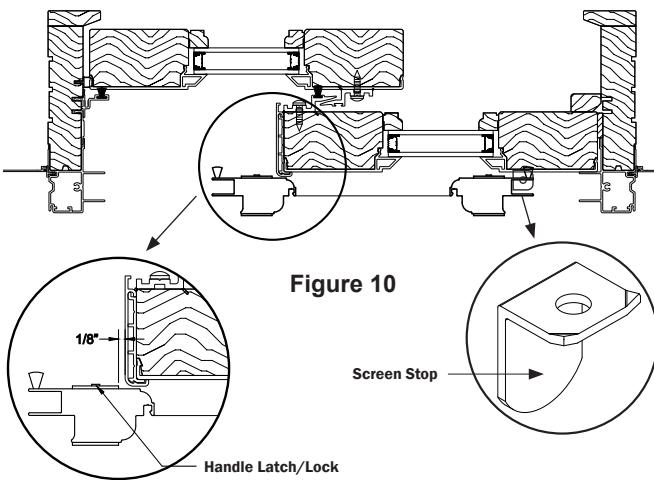

Figure 10
11. Slide screen door to its open position, with the screen handle about 1/8" away from the stationary panel. Next, install the screen stop into the head screen track tightly to the back of the screen - opposite side of the handle (Figure 10). Use the provided #8 x 3/4" phillips pan head self-drilling screw to install.